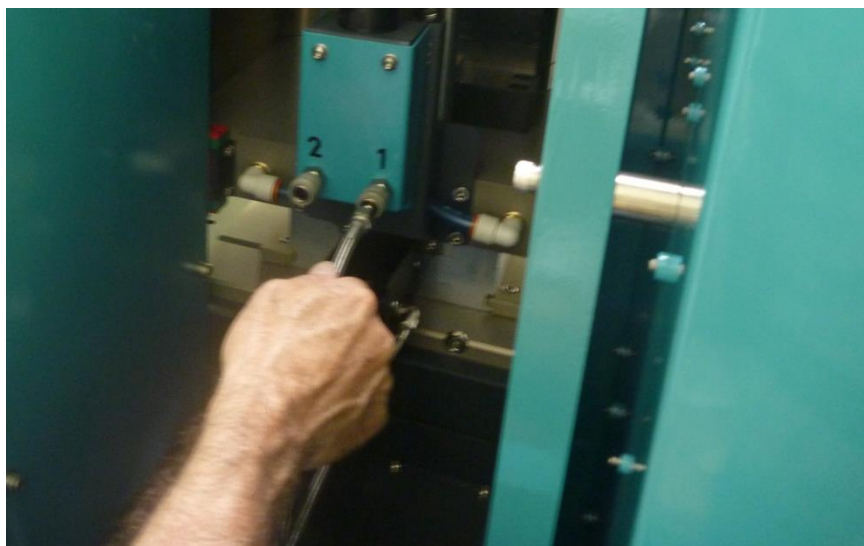

Fig. 4-37 Nozzle air connection
- Connect the nozzle air hose to the appropriate quick disconnect coupling as shown in Fig. 4-37. For Melt-man units connected to receptacle “1” [see chapter 3.3.2] plug the air hose into the coupling labeled “1”. Correspondingly connect the air hose into coupling “2” for Melt-man units connected to receptacle “2”.